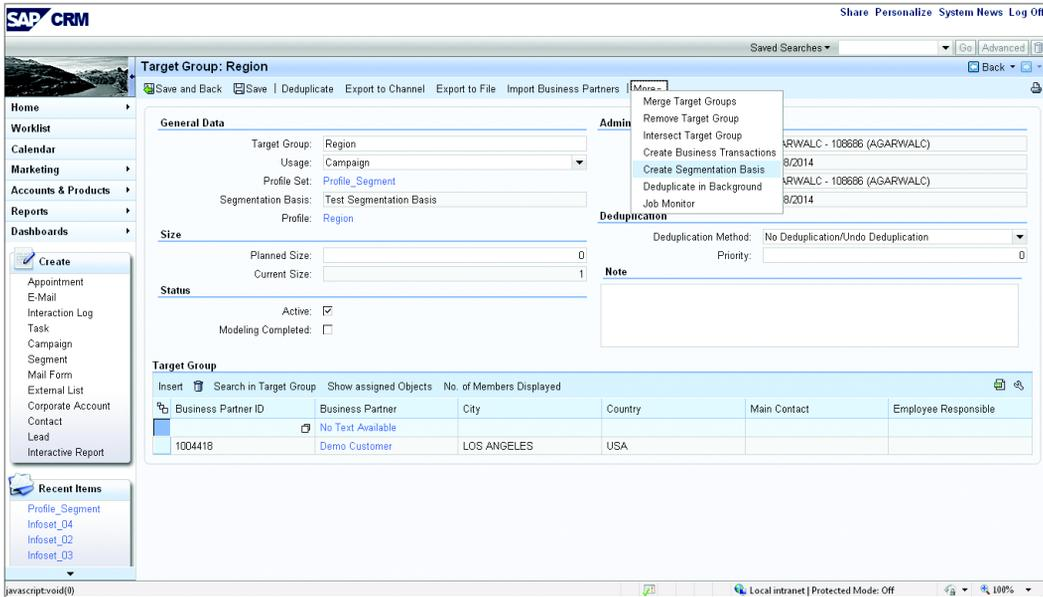

Figure 5.64 Creating a Segmentation Basis from the Target Group
1. Create the segmentation basis from the configuration path, SPRO • CUSTOMER RELATIONSHIP MANAGEMENT • MARKETING • SEGMENTATION • CLASSIC SEGMENTATION • DEFINE SEGMENTATION BASIS, or click on MORE • DEFINE SEGMENTATION BASIS from the target group, as shown in Figure 5.64.